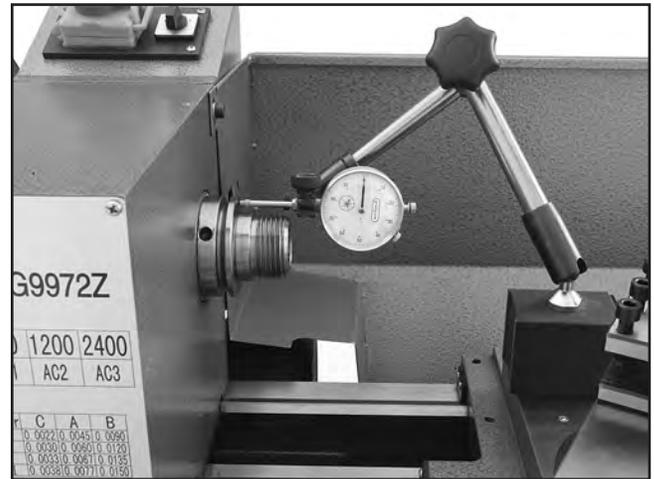

Figure 93. Dial indicator setup.
7. Place a dial indicator on the cross slide and move the carriage toward the spindle until the contact point of the indicator lightly touches the spindle face and the dial reads exactly zero (see **Figure 93**).